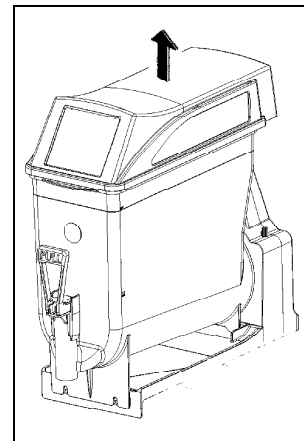

Fig. 5
- Retirer le couvercle principal (fig.5).